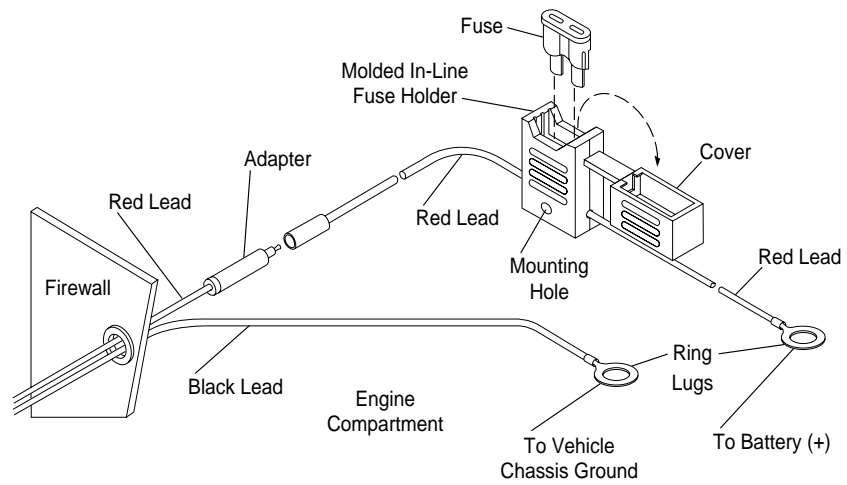

Figure 2-2. Power Cable Assembly
4. Connect the black lead of the power cable to the nearest vehicle chassis ground point, which is usually the central ground point near the battery (using the provided ring lug if necessary). Shorten the black lead to remove any excess cable. (See Figure 2-2.)
6. Insert the stripped end of the red lead of the fuse holder into the ring lug hole and crimp it. Connect the fuse holder red adapter lead plug to the mating receptacle on the red lead of the power cable. (See Figure 2-2.)
9. Carefully check that all connections are proper. Insert the fuse into the fuse holder and close the cover. (See Figure 2-2.)